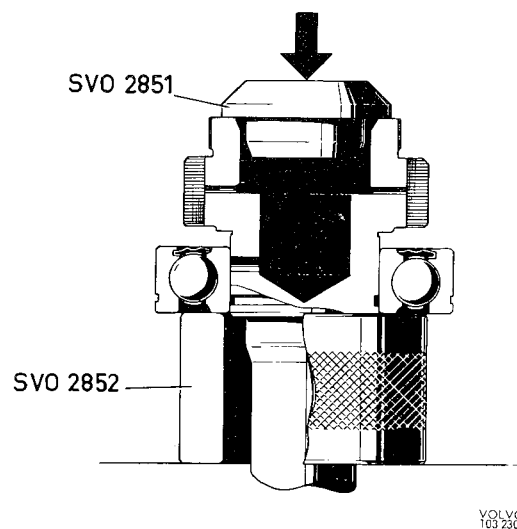

Fig. 4-24. Installation ball bearing on input shaft
1. Press the sealing rings in the front cover with drift 2851 + 1801. Press the ball bearing on the input shaft with the help of the cushioning ring 2852 and drift 2851, see Fig. 4-24.